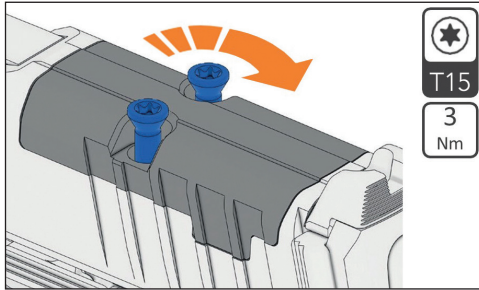

Figure 15 – Tighten screws
4. Tighten screws until the torque is reached (Fig. 15).